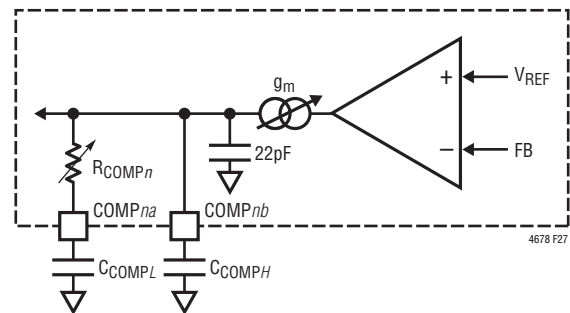

Figure 27. Programmable Loop Compensation
5.73mmho , and the compensation resistor R_{COMPn} varies from $0\text{k}\Omega$ to $62\text{k}\Omega$ inside the controller. Two compensation capacitors, $COMPna$ and $COMPnb$, are required in the design and the typical ratio between $COMPna$ and $COMPnb$ is 10. Also see Figure 2 Block Diagram and Figure 27.